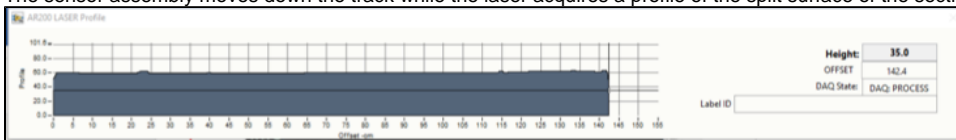

Figure 4. Laser Profile
9. The sensor assembly moves down the track while the laser acquires a profile of the split surface of the section (Figure 4).